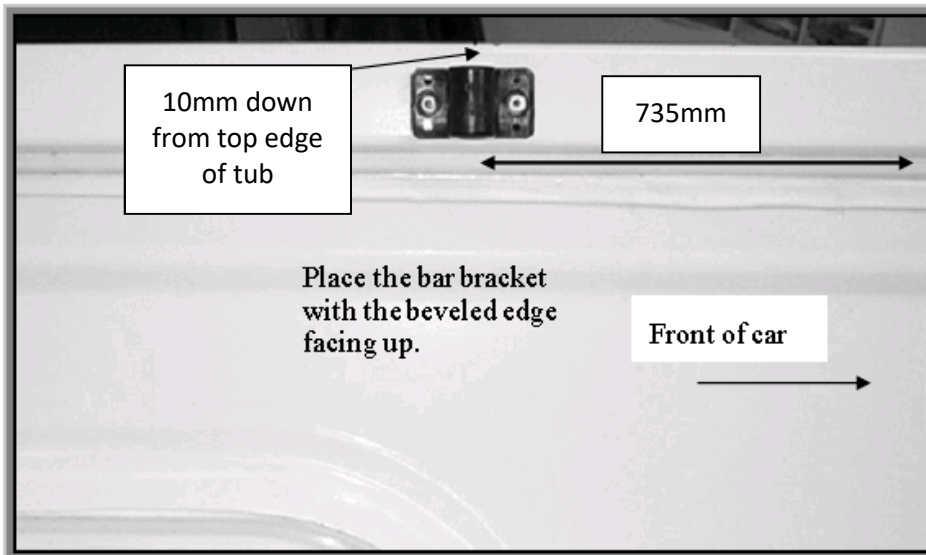

Figure 3. Placement of bar bracket.
- a. To fit the support bar brackets, measure 735mm back from the inside front edge at the top of the tub and then place them as shown in **Figure 3**. (10mm from top edge of tub).
- c. Measure down 125mm from the top of the tub, and back 60mm from the front outside edge of the tub and then mark the position. See **Figure 3** below.